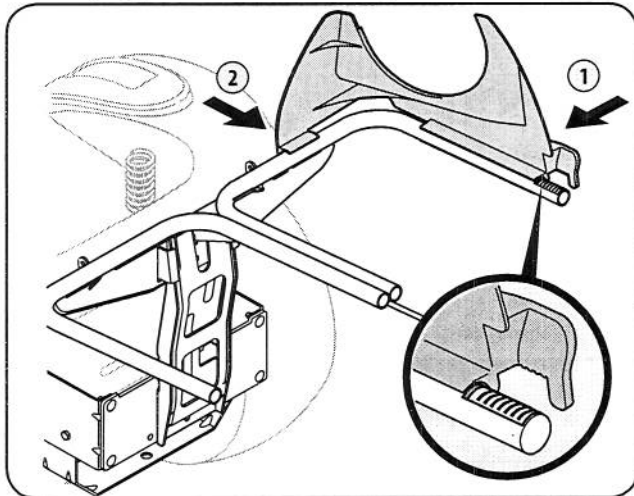

Figure 4-12
1. Snap the plastic upper chute support in place by first clipping the side portion onto the bag support rail with the edge of the snap feature aligned with the red line (1), as shown in the inset of Fig. 4-12.
2. Snap the front portion of the upper chute support to the bag support rail as seen in 2 of Fig. 4-12.